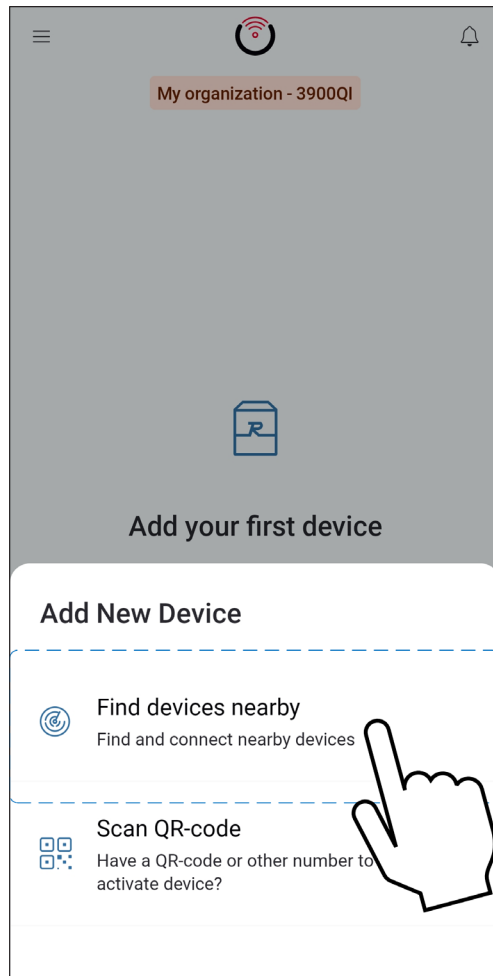

Figure 84. Check your Device
- "Check your Device" screen will appear. Ensure to have AVIA heater powered and Wi-Fi signal available in the area, then press "Start" button. See Figure 84.